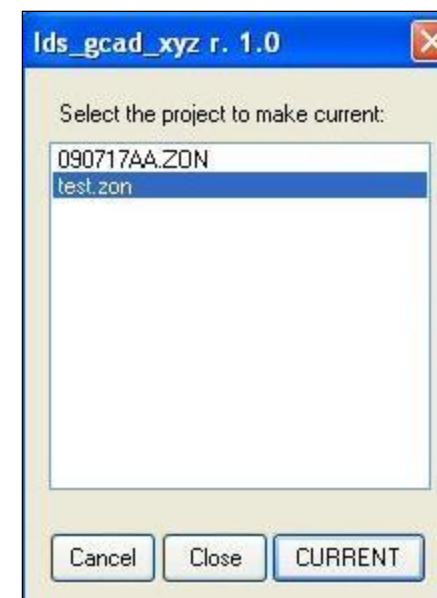

Fig. 118 – Multiple Project management
- Repeat step 1 & 2 for each new project that should be imported in CAD (remember that IQMaps SW creates a different ASCII file for each project inside its directory). The user will choose the current project among the list shown in the window in (Fig. 118).